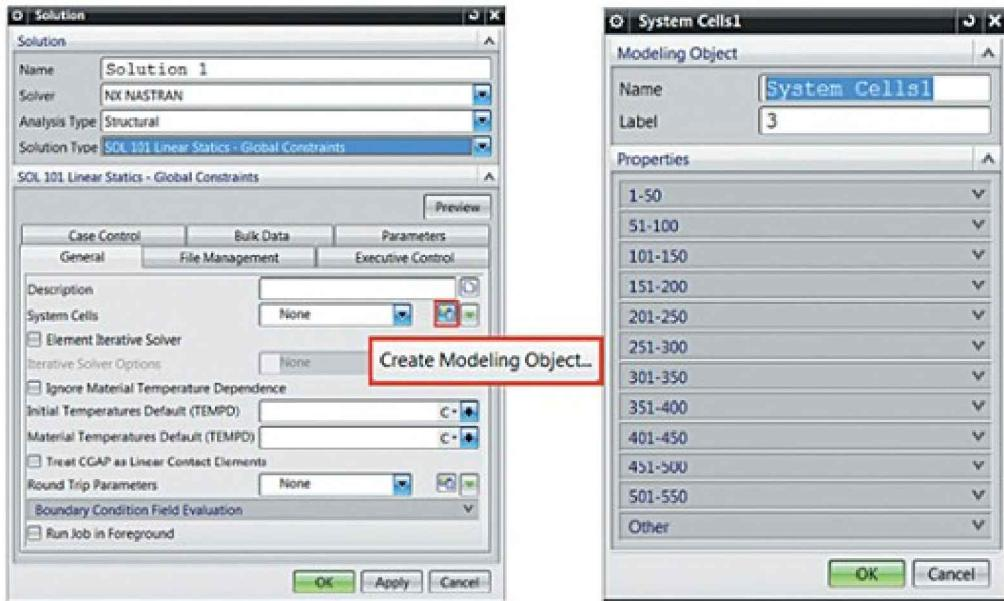

Figure 1.6. Options of the General tab
2. Under **System Cells**, you can set up NX Nastran *parameters* (Figure 1.6). The default set of system parameter values is suitable for most problems. All system parameters are numbered in accordance with their description [8]. You can add system parameters or edit existing ones using the **Create Modeling Object** command. In the **System Cells n** dialog box, select the relevant parameters and assign desired values, then click **Add**. For example, you can use the **PARALLEL(107)** system parameter to set up parallel computation. Its value reflects the number of CPUs used in the parallel computation.